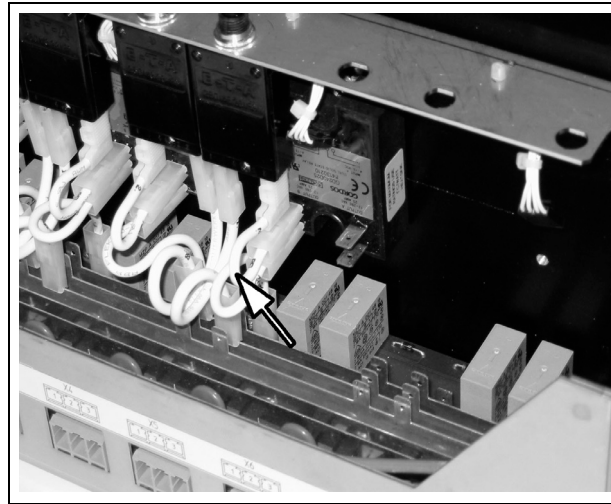

Fig. 7-3: Wiring on Overcurrent Trip and Load Relay
12. Push the end of the wiring marked "2" onto the flat plug connection of the thermally delayed overcurrent trip (see Fig. 7-3, page 7-38).